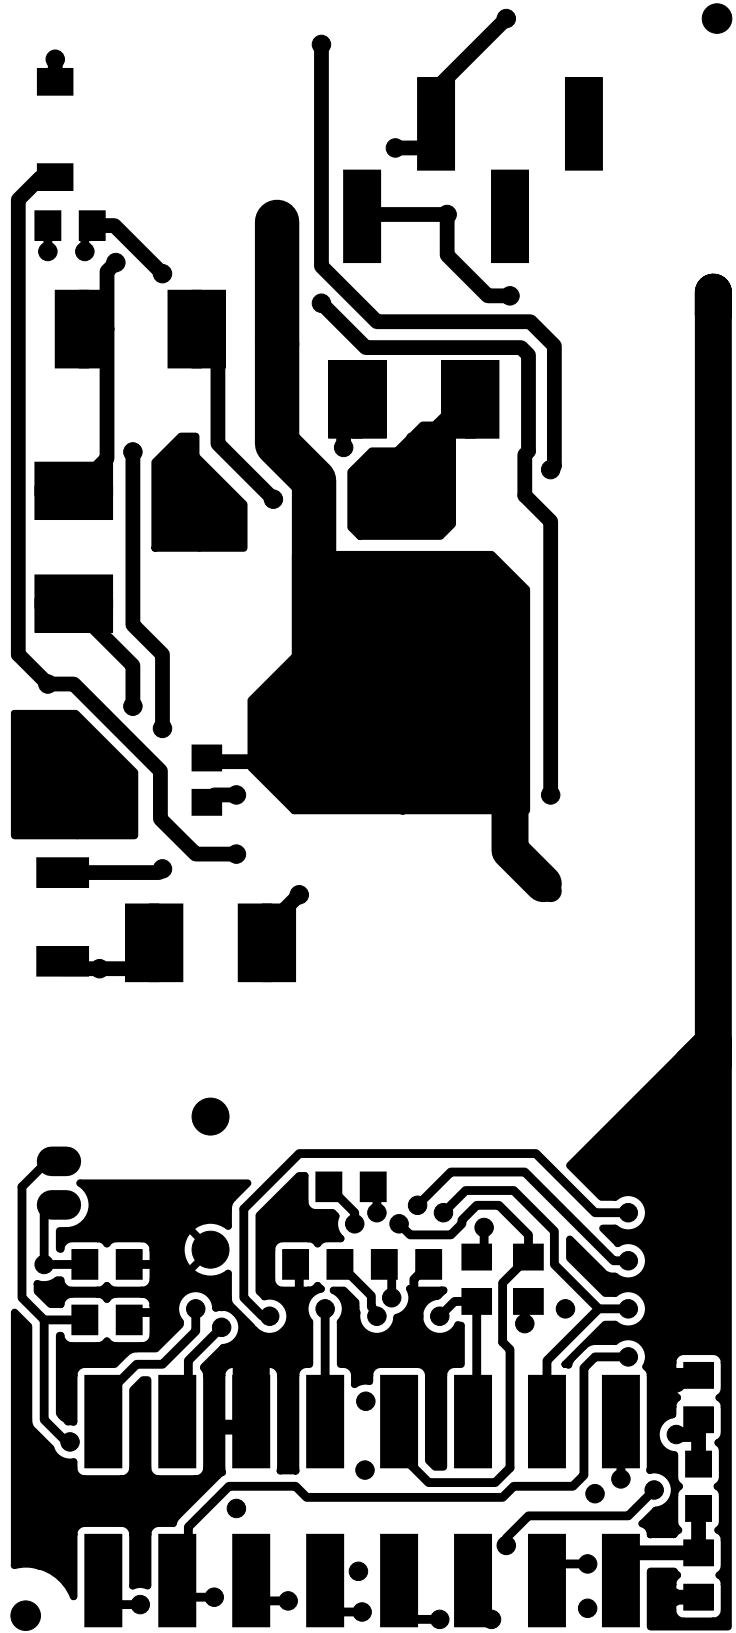

Figure 17. Daughter Card Secondary Side Layout
- Updated Figure 17, “Daughter Card Secondary Side Layout,” on page 26.